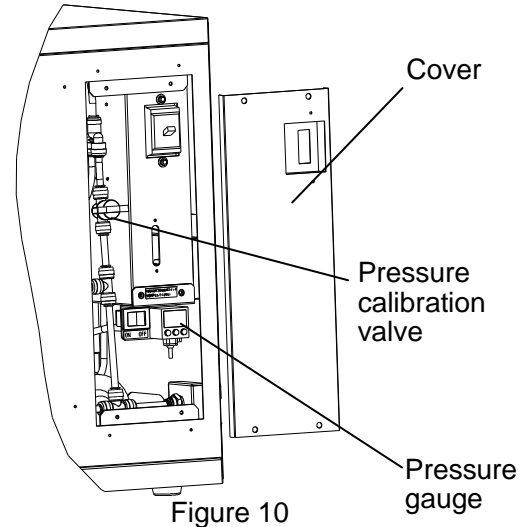
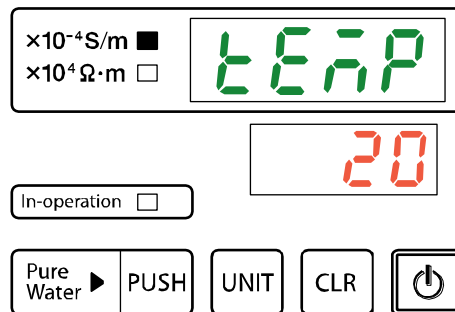

Figure 10
Figure 11
- (1) Remove the right cover of main unit and confirm the location of pressure calibration valve and pressure gauge. (See Figure 10.)
- (2) Turn ELB "ON" (|) and begin water sampling process. (See P.25)
- (3) Press and hold **UNIT** while drawing water sample to display the current water temperature. (See Figure 11.)
- (4) Using the temperature shown in the information display, refer to Table 1 for a corresponding pressure. Calibrate to the appropriate pressure by turning the pressure adjustment valve.